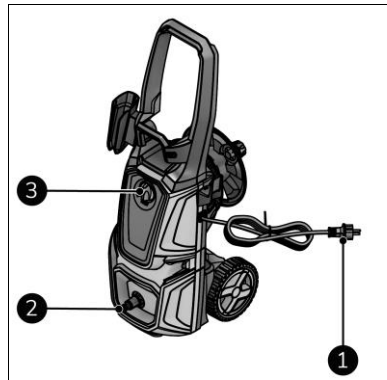

Figure 11
2. Make sure the ON(I)/OFF(O) switch (Figure 11, pos. 3) is in the OFF(O) position.
4. Connect the water supply to the device (Figure 11, pos. 2).